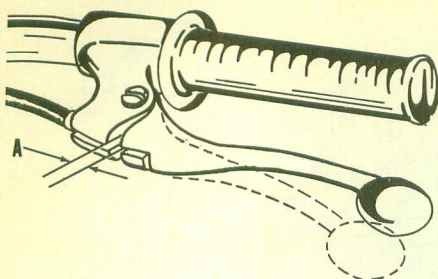

Fig. Y4-9—The clutch hand lever should have 2-3MM free play at (A).
**CLUTCH CONTROLS.** The clutch hand lever should have 1/16-1/8 inch free play at (A—Fig. Y4-9). To adjust, remove the engine left side cover or clutch screw cover and loosen lock nut. Turn the adjusting screw (S—Fig. Y4-10) in until slight resistance is felt, then back screw out 1/4 turn and tighten lock nut. Turn the cable guides at ends of cable until the hand lever free play (A—Fig. Y4-9) is correct.